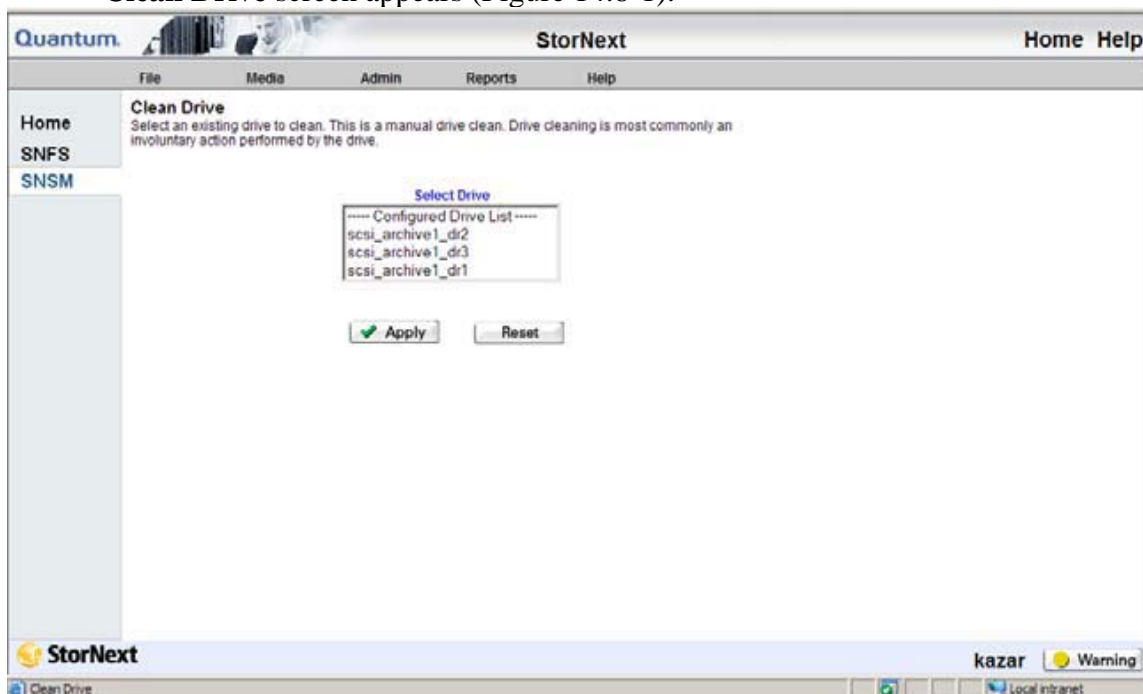

Figure 14.8-1. Clean Drive Screen
- 1 From the SNMS home page, choose **Drive, Clean Drive** from the **Admin** menu. The **Clean Drive** screen appears (Figure 14.8-1).